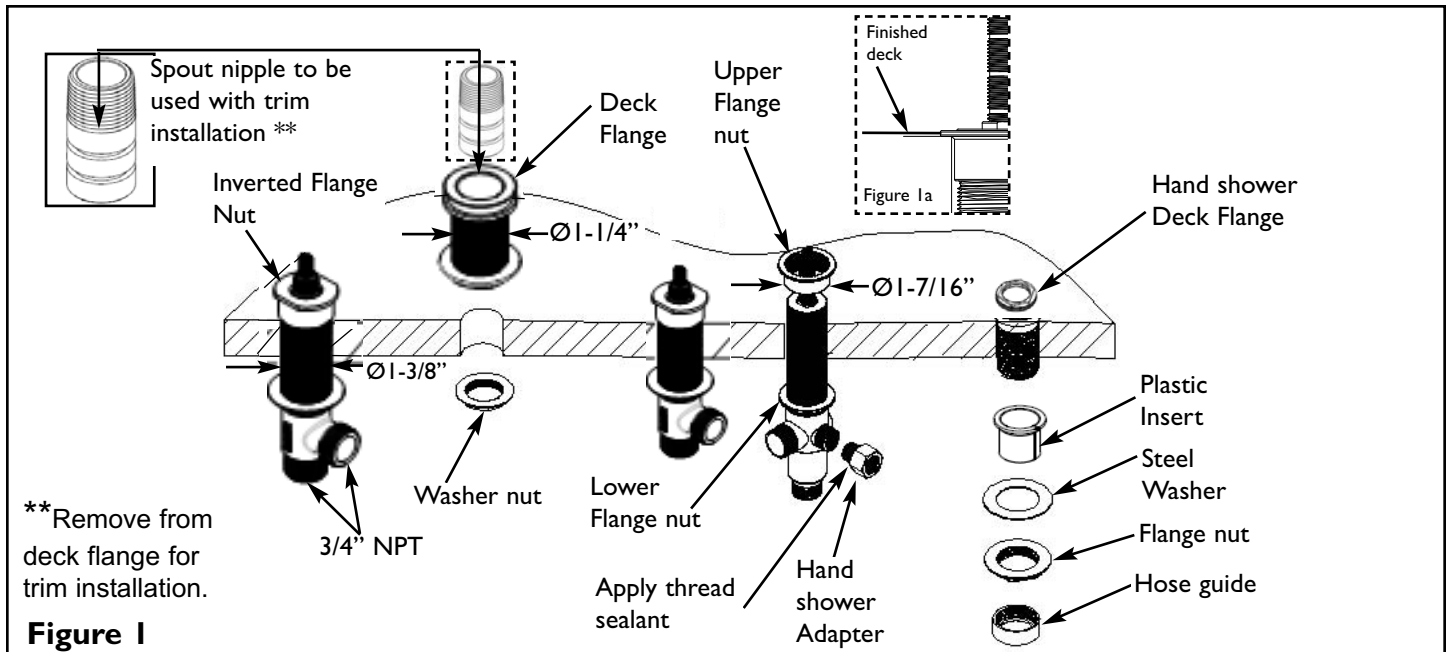

Figure 1
1. Install the Spout quick connect Deck Flange through spacer and appropriate hole of mounting surface. Secure with washer nut. See Figure 1
2. Place washer nut on valve body. Insert body, (blue cold & red hot), through hole from below mounting surface. See Figure 1.
3. Thread Inverted Flange Nut onto top portion of valve until it bottoms out. This will ensure the correct stem height mounting surface. Secure into place by tightening lower washer nut. See Figure 1.